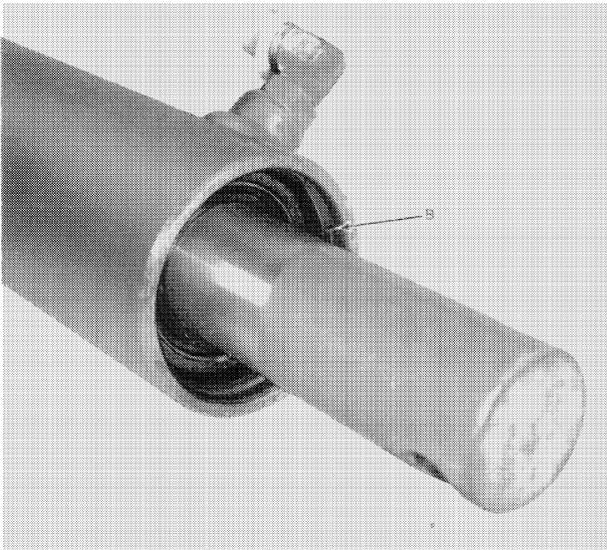

FIGURE 2-4
2. Tap cylinder head, Figure 2-4, into the cylinder far enough to remove retaining ring, B, with a screwdriver.
5. Insert the complete piston rod assembly into the barrel and install retaining ring, B, Figure 2-4.